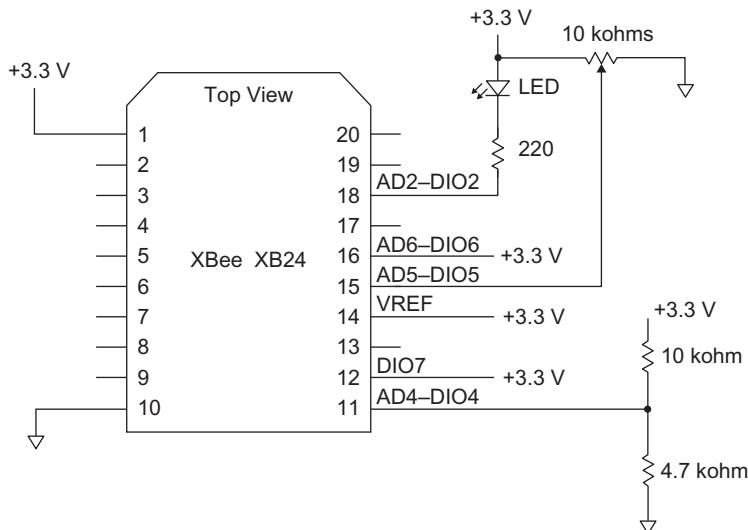

FIGURE 14.3 Connections for analog and digital inputs at the remote XMTR module to provide voltages to the ADC inputs and logic levels for digital inputs.
Step 6. In this step you will change the inputs at four pins and add an LED as an output indicator, as described next and shown in Figure 14.3.
- Connect a 10-kohm fixed resistor (brown-black-orange) and a 4.7-kohm resistor (yellow-violet-red) as shown in Figure 14.3 and connect the junction of the resistors to the AD4-DIO4 pin (pin 11).